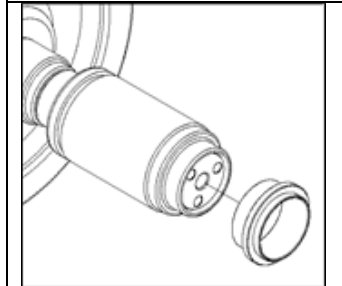

Figure 20 – Adaptor Ring Positioning
- 5.3.5 Place the Installing Tube Adaptor Ring in position against the outer seal wear ring. The Installing Tube Adaptor Ring must be properly positioned on the Guide Tube to receive the installing Tube (Figure 20).